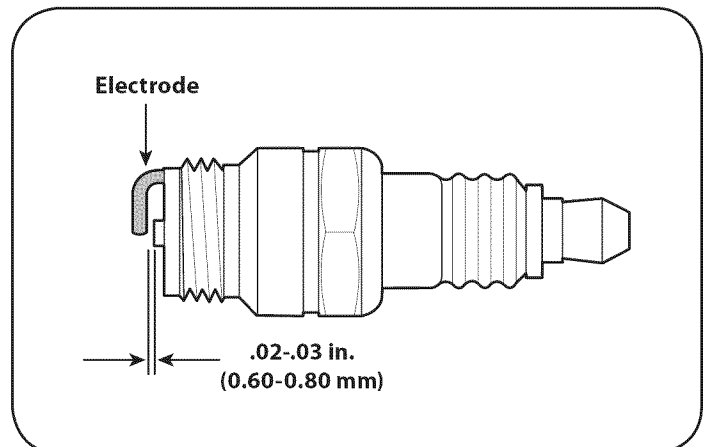

Figure 20
- Measure the plug gap with a feeler gauge. Correct as necessary by bending side electrode. See Figure 20. The gap should be set to .02-.03 inches (0.60-0.80 mm).